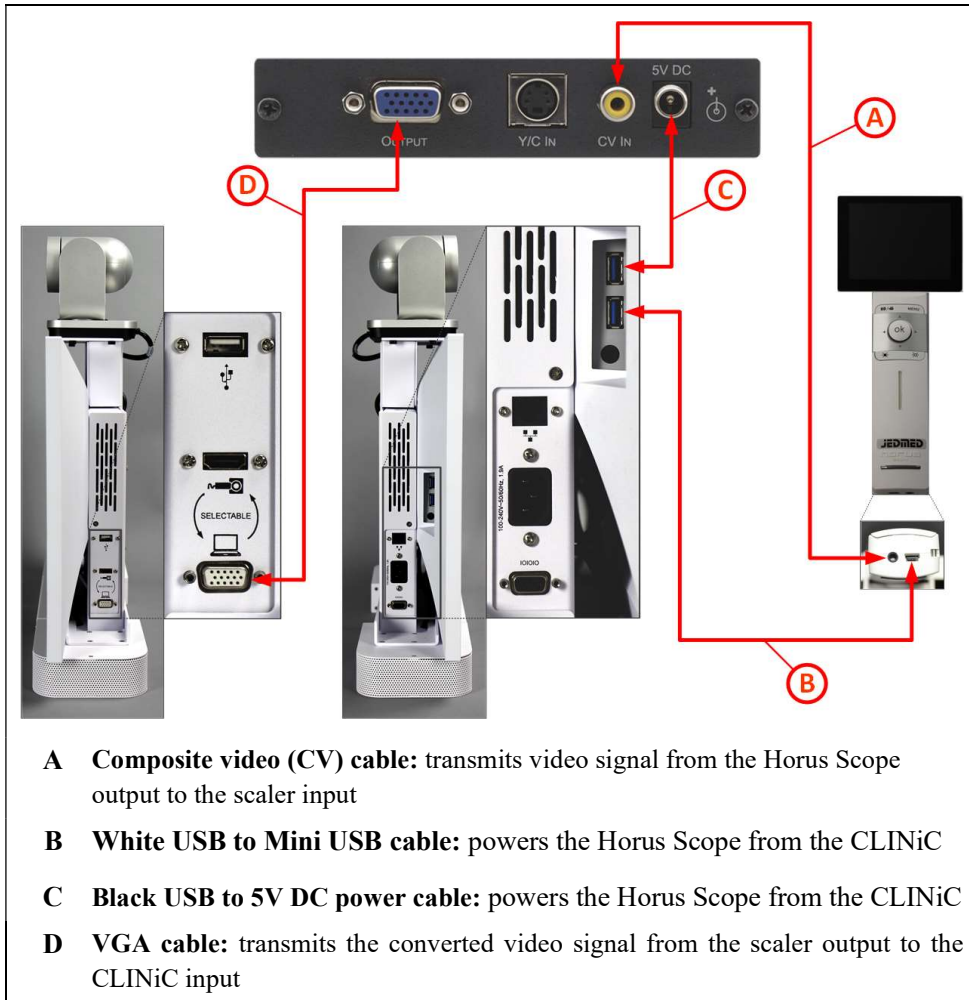

Figure 4. Horus Scope – CLINiC connectivity diagram
2. Connect the video scaler VGA cable to the CLINiC VGA port (refer to Figure 4 for the logical connectivity diagram).
The B2 and C2 USB connectors must be fed through to the CLINiC USB ports using the fishing tape (refer to Figure 4 for the logical connectivity diagram).